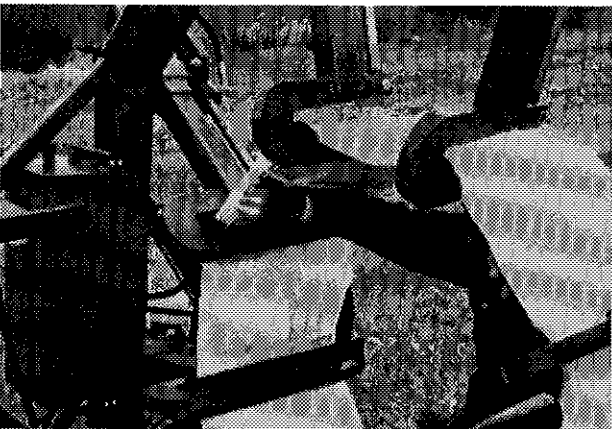

Figure 22
- 3) Install tube on the stretcher arms. Place it so that the name ProTube is facing outside when it unfolds. Slide it carefully **to the bottom** of the stretcher arms and between the two bottom plates, being careful to remove all wrinkles, since they could cause some tearing of the tube. (Fig. 22)